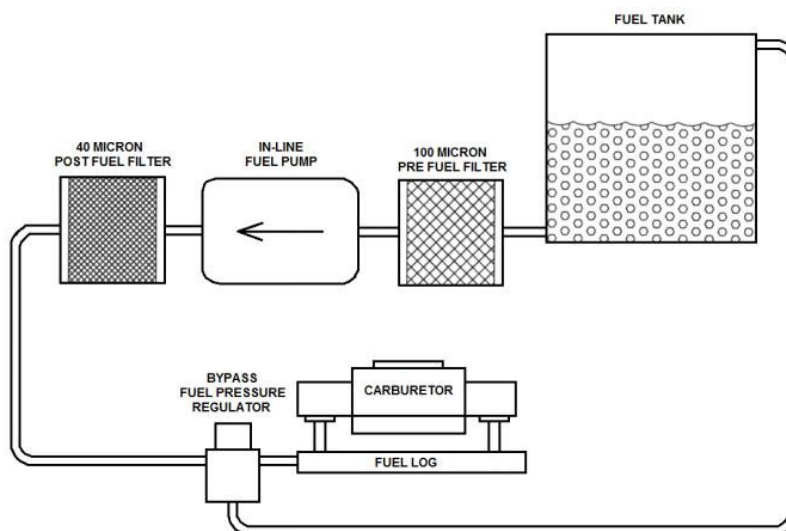

Figure 2
3. The bypass regulator has one bypass or return port. This port (labeled "RET") must be connected to the storage tank with a fuel line the same size as the supply line (3/8 in. I.D. is recommended). See Figures 2 & 3.
5. Connect the other line per Figure 2 or 3.